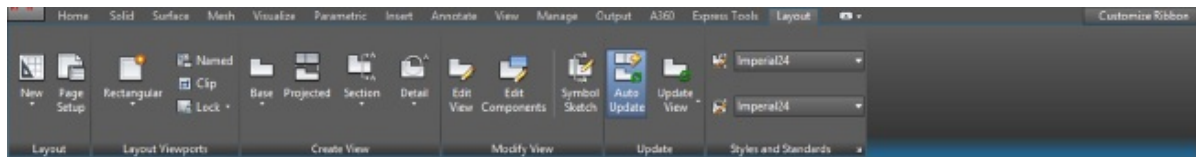

FIGURE 22.36 The Viewbase command in the Layout tab of the Ribbon
1. In the bracket .dwg file, go to paper space and activate the Layout tab in the Ribbon (see Figure 22.36). The Create View panel contains the Viewbase command (the command's full name is Viewbase, but the Ribbon simply shows Base).